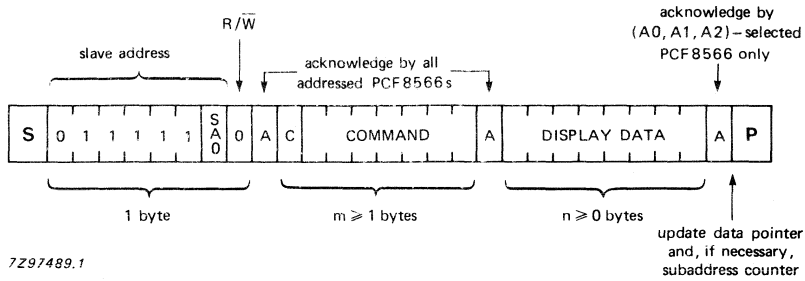

Fig. 15 I²C bus protocol.
The I²C bus protocol is shown in Fig. 15. The sequence is initiated with a start condition (S) from the I²C bus master which is followed by one of the two PCF8566 slave addresses available. All PCF8566s with the corresponding SA0 level acknowledge in parallel the slave address but all PCF8566s with the alternative SA0 level ignore the whole I²C bus transfer. After acknowledgement, one or more command bytes (m) follow which define the status of the addressed PCF8566s. The last command byte is tagged with a cleared most-significant bit, the continuation bit C. The command bytes are also acknowledged by all addressed PCF8566s on the bus.